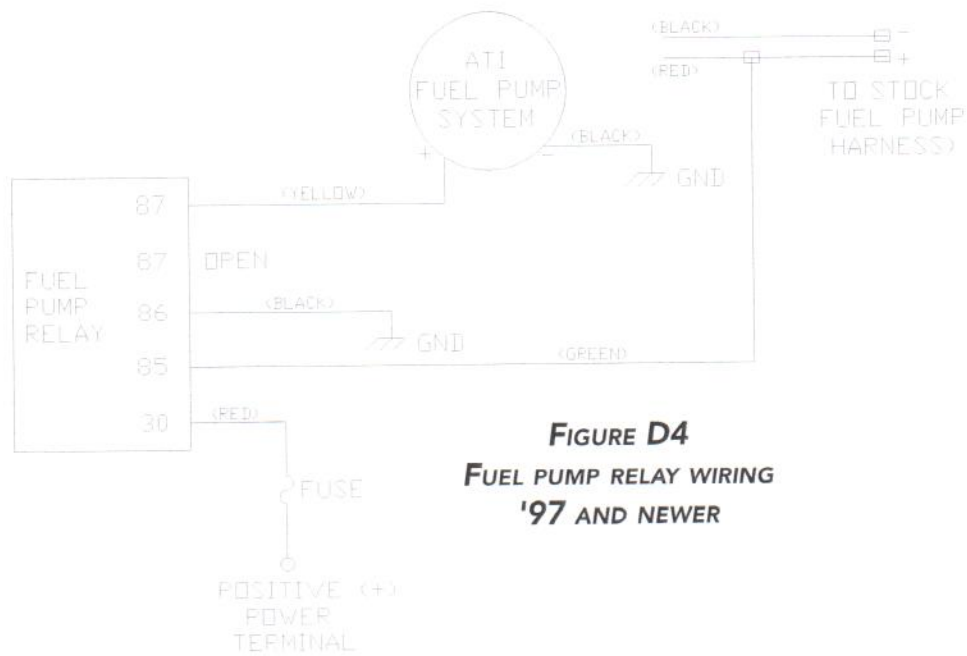

FIGURE D4
8. On the rear of the computer box are two bolt holes, one above the other. Mount the ATI regulator/bracket assembly to these holes using two supplied 1/4" x 3/4" bolts and lock washers. The regulator should be positioned so that the adjustment screw is on top. See figure D4.